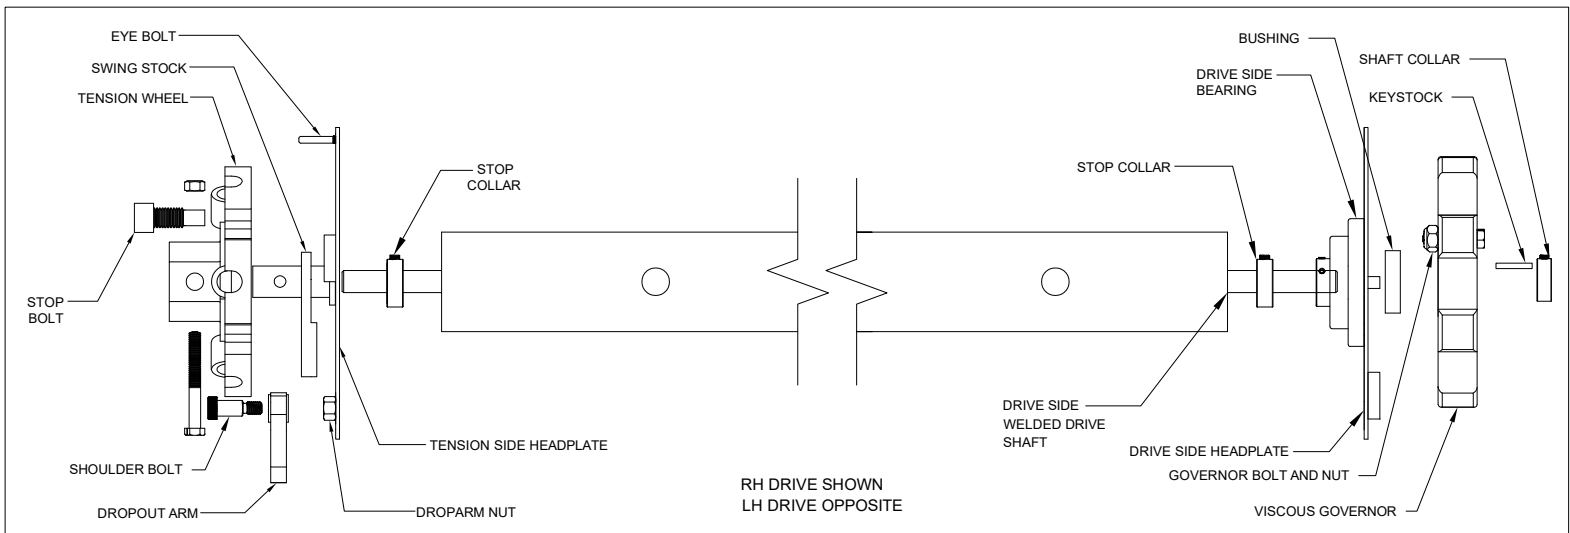

FIGURE 10
b. Assemble tension side headplate as shown in Figure 10.
c. Assemble drive side headplate as shown in Figure 10 for manual operation.